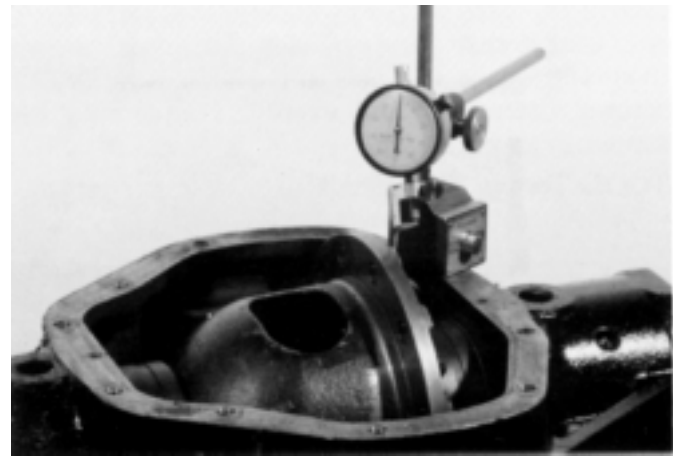

Figure 3-40
| (1) | Total amount of space measured without ring gear as shown in step 41, figure 3-40 | Measurement A | _____ |
| (1) | Total amount of space measured without ring gear as shown in step 41, figure 3-40 | Measurement A | .105" (2.67 mm) |